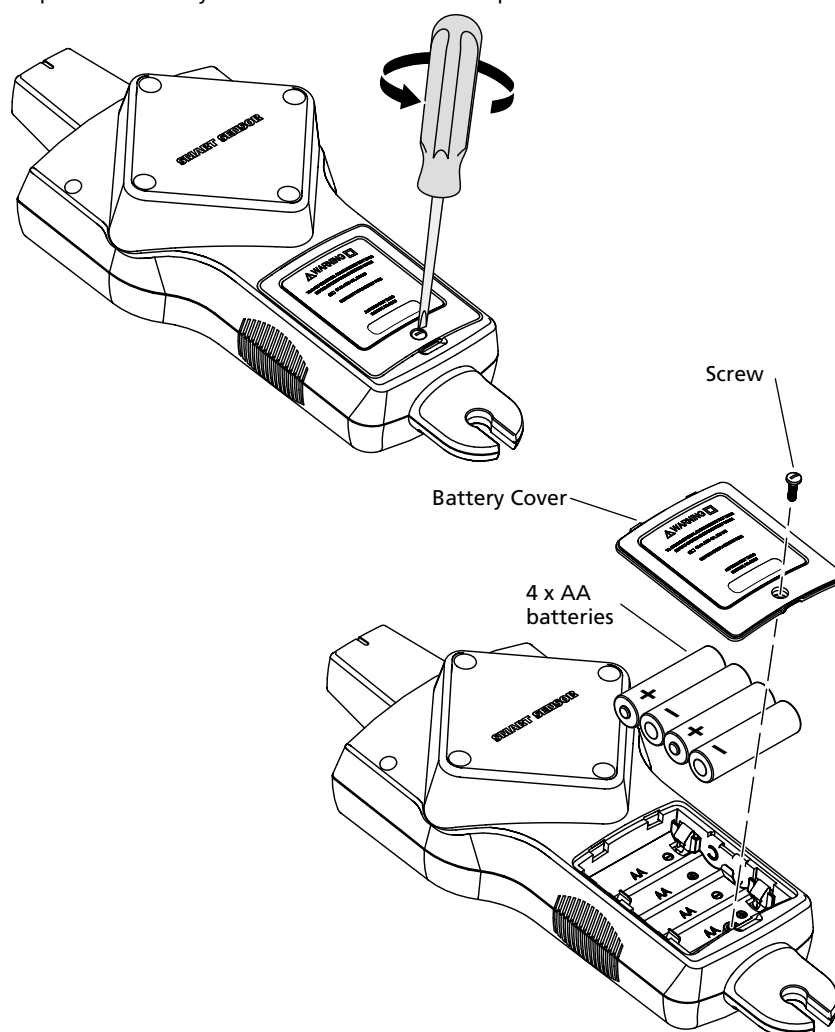

Figure 5.1b: Changing Receiver batteries
3. Remove the battery cover (Figure 5.1b).